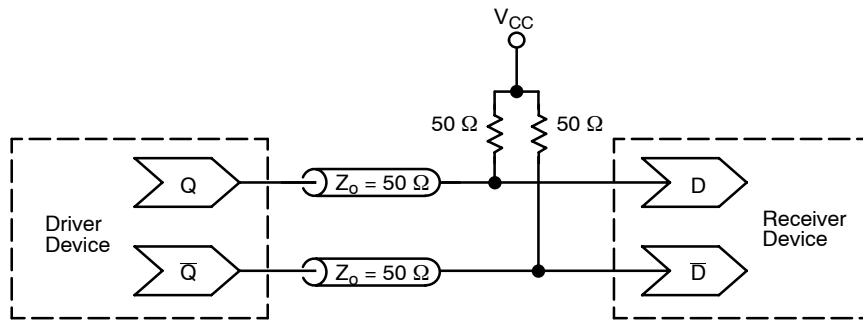

Figure 9. Typical Termination for Output Driver and Device Evaluation
- CML outputs require $R_L = 50\ \Omega$ receiver termination resistors to V_{CC} for proper operation. (See Figure 9)
| RSECL, PECL, NECL | Standard ECL Termination Techniques (See Figure 9) |